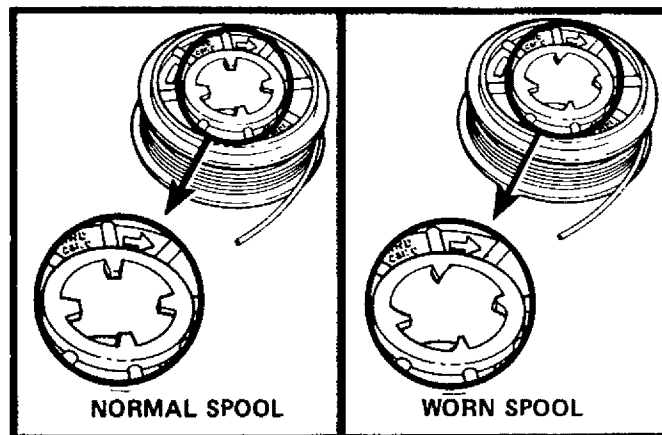

Figure 25
- a. **Replace the spool when:** The square corners of the drive lugs are rounded off, reduced in size, or broken off. Figure 25.